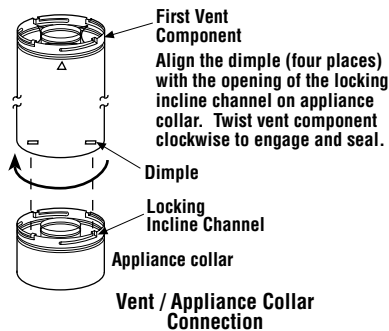

Figure 19
B. Attach vent components to appliance - Secure Vent SV4.5 direct vent system components are unitized concentric pipe components featuring positive twist lock connections (see **Figure 19**).
To attach a vent component to the appliance collar, align the dimpled end over the collar, adjusting the radial alignment until the four locking dimples are aligned with the inlet of the four inclined channels on the collar (*refer to Figure 19*). Push the vent component against the collar until it fully engages, then twist the component clockwise, running the dimples down and along the incline channels until they seat at the end of the channels.
Secure Vent SV4.5 direct vent system components are unitized concentric pipe components featuring positive twist lock connection, (refer to **Figure 19 on page 11**). All of the appliances covered in this document are fitted with collars having locking inclined channels. The dimpled end of the vent components fit over the appliance collar to create the positive twist lock connection.
Analyze the vent routing and determine the types and quantities of sections required 4 1/2" (114 mm), 10 1/2" (267 mm), 22 1/2" (572 mm), 34 1/2" (876 mm) and 46 1/2" (1181 mm) net section lengths are available. Make allowances for elbows as indicated in **Figure 19**.